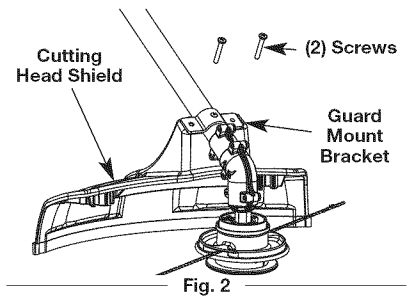

Fig. 2
1. Place the cutting head shield onto the guard mount bracket, making sure to align the holes on the shield with the ones in the guard mount bracket. (Fig. 2)